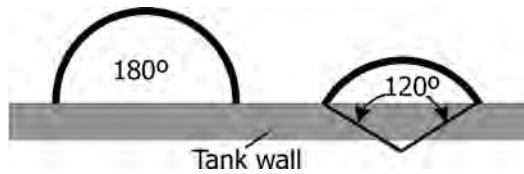

FIGURE 12.12 Half-pipe jacket angles. (Courtesy: Santosh Singh (process.santosh@googlemail.com).)
- Half-pipe coil jackets are generally made with either 180° or 120° central angles (D_{ci}) as illustrated in Figure 12.12.